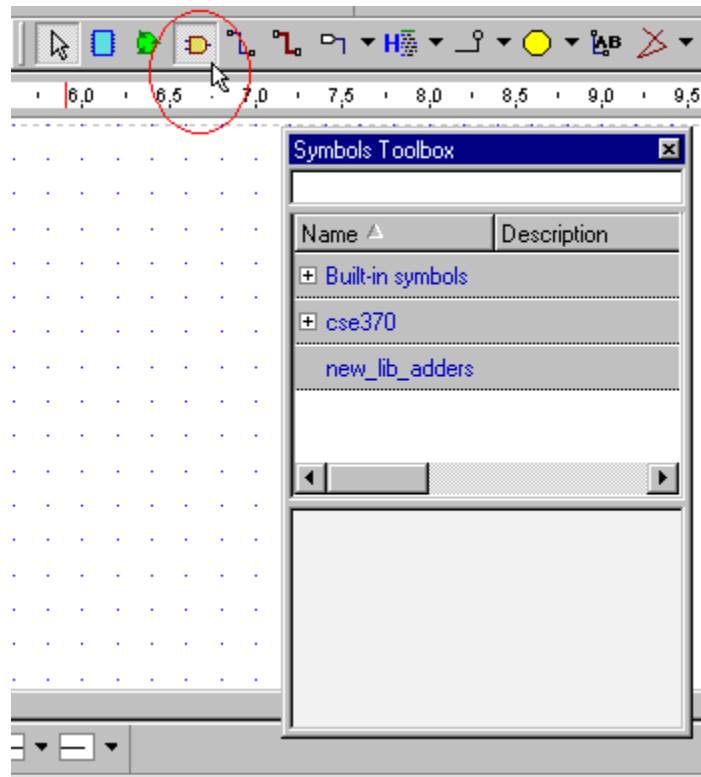

Figure 16
5. Open the Symbols Toolbox by clicking the Symbols Toolbox icon in the toolbar (Figure 16).